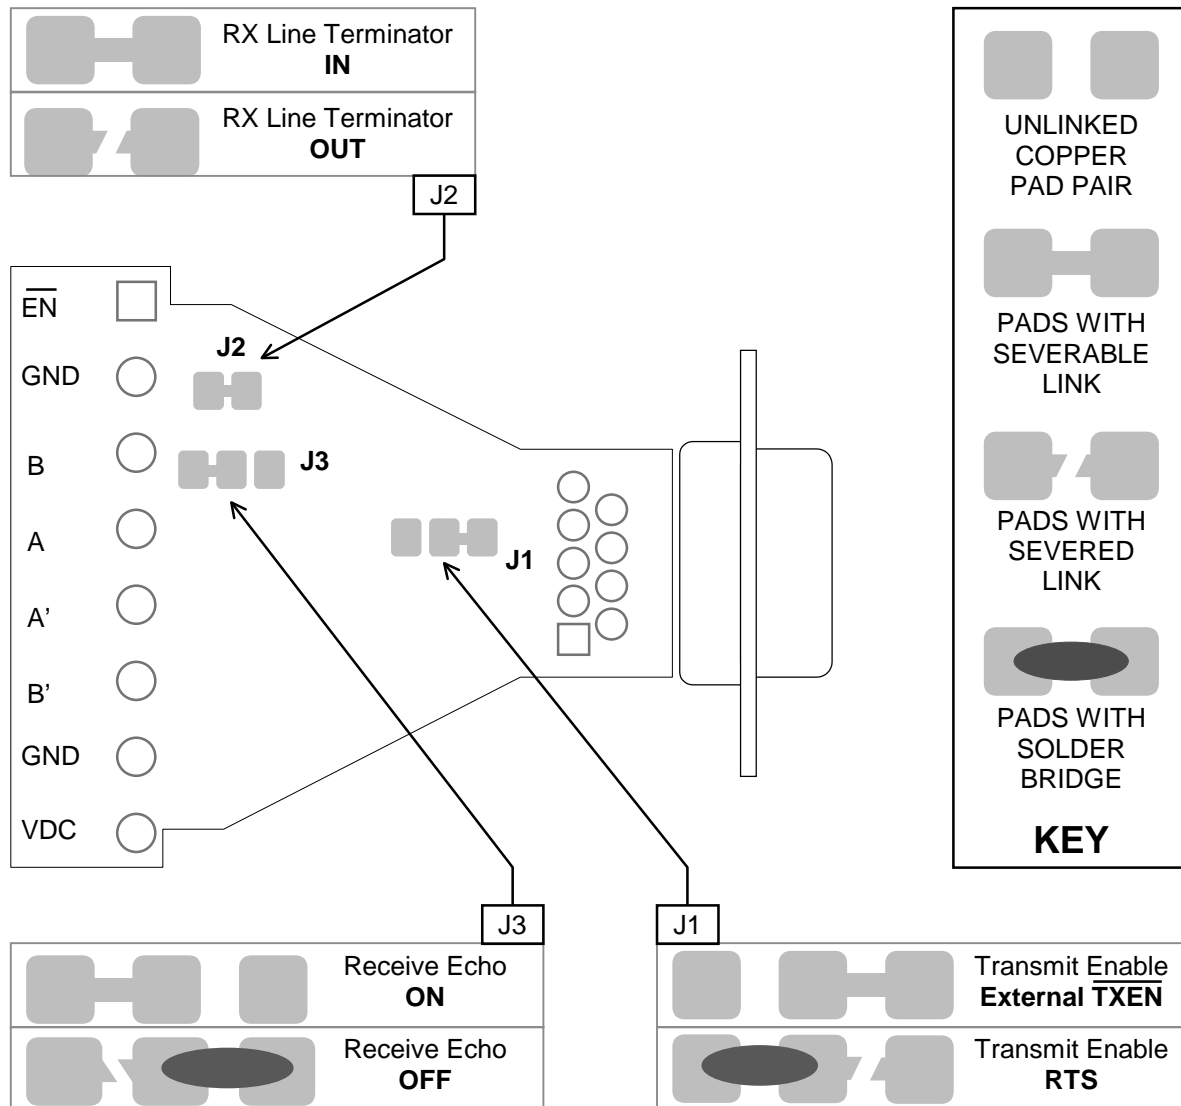

FIGURE 2.3 CONFIGURATION OPTIONS
The configuration options listed below are available, and the appropriate connection bridges are shown in figure 2.3.
The configuration options are described in more detail in the following paragraphs. For many applications, no changes need be made, but if re-configuration is required, locate the pad group from figure 2.3 which illustrates the non-component side of the printed circuit board. When an
In half duplex operation over a single circuit or a multi-drop arrangement, the transmitter must be enabled when the device is ready to transmit, and disabled (tri-state) when the device is ready to receive. Two methods are provided for enabling the transmitter, and the desired method is selected by the link on J1. (See figure 2.3).
2. **RTS Transmit Enable.** The transmitter can alternatively be enabled under control of the RTS (Request To Send) line of the RS-232 host DTE device. See J1 in figure 2.3 for the appropriate patching.
The Model 485HF9 Adaptor is equipped with a terminator resistor for the receiver input pair, and this resistor is connected into circuit by the J2 link on the printed circuit board. See figure 2.3. Factory setting is with the receiver input terminator in circuit, but it can be removed from the circuit by cutting the link as described in paragraph 2.3. Removal of the link is required in some multi-drop applications.